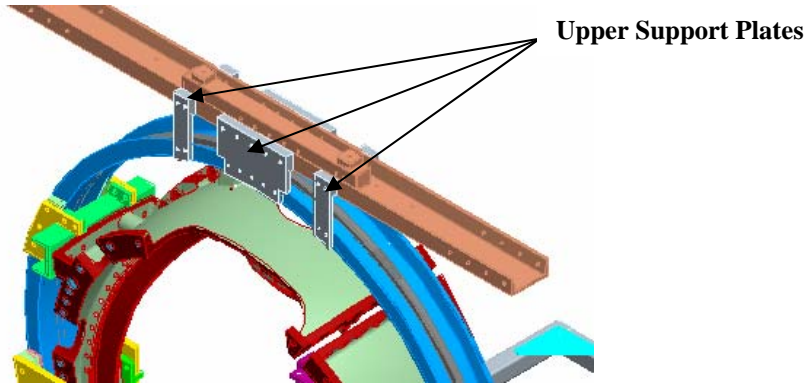

Figure 7- Upper Support Plates
- Using a pneumatic impact wrench remove the upper support plates between the supporting ring and lift beam. Figure 7- Upper Support Plates This operation must be verified prior to operating turning fixture.